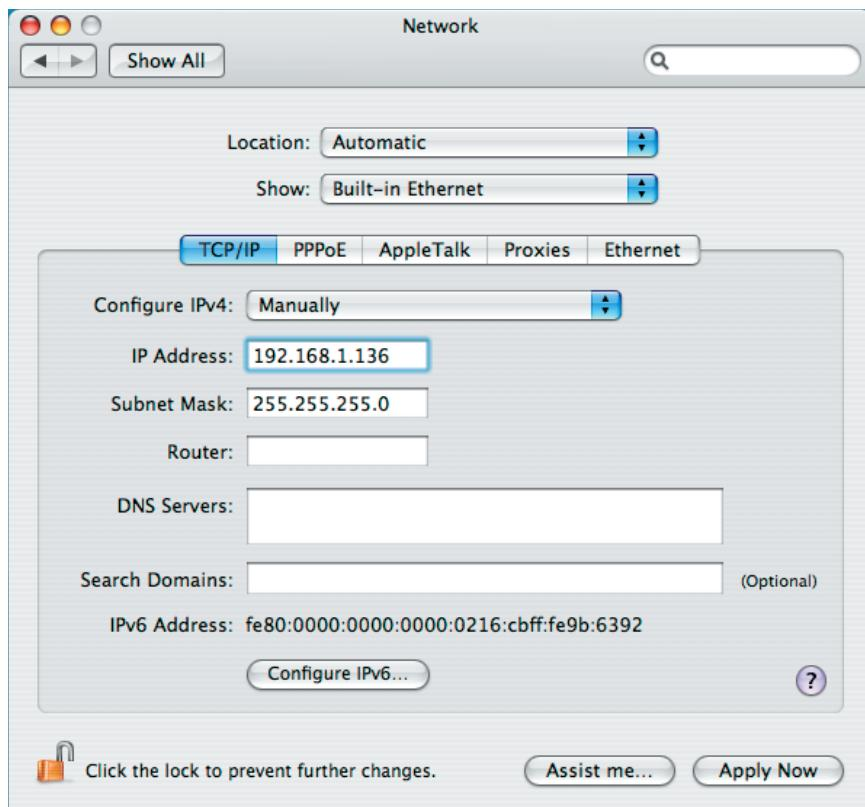

Figure 3-6. Configure IPv4 Menu Selection on the TCP/IP Setup Screen
Step 4: Enter **192.168.1.136** (Figure 3-6). Enter the following subnet mask number **255.255.255.0** (Figure 3-6).